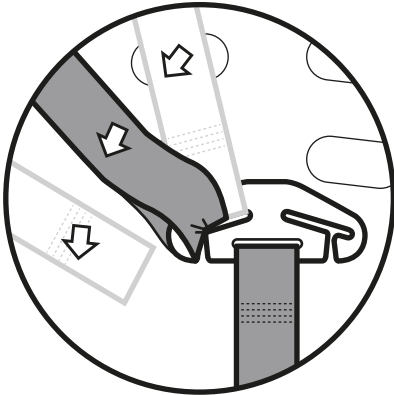

Figure 3
**Step 3:** Engage and disengage the Harness Tongues and Buckles several times until a strong audible “CLICK” is heard when inserting the last tongue (refer Figure 3).